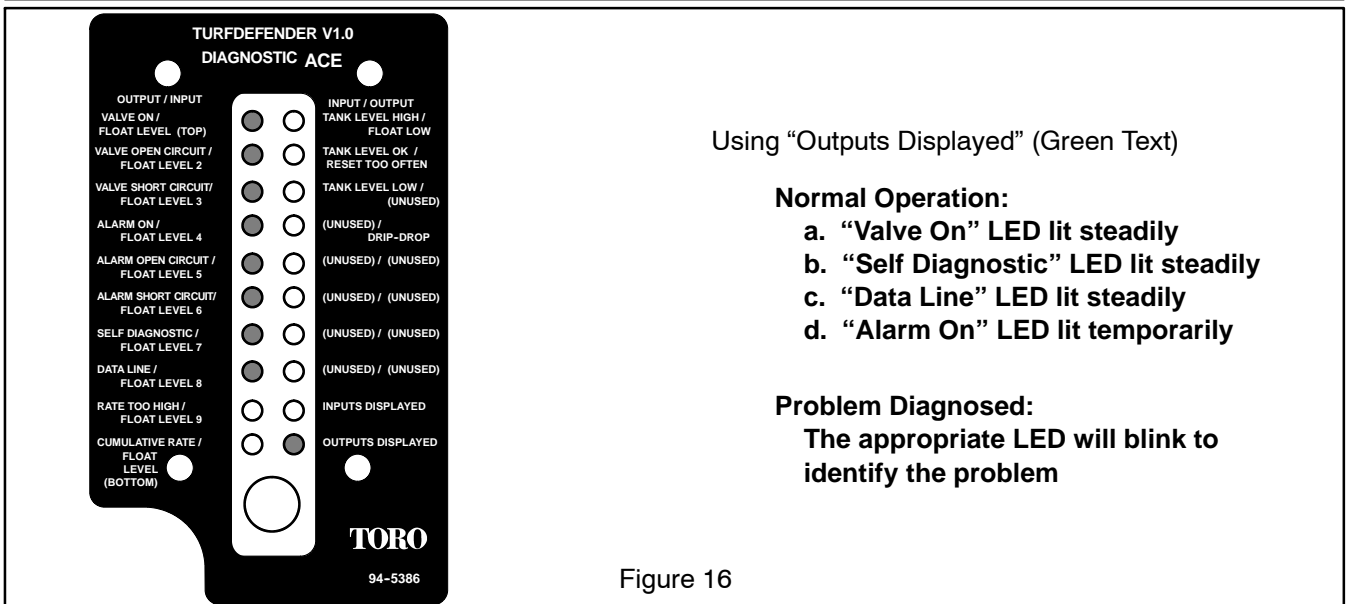

Figure 16
2. Press toggle button until green “Outputs Displayed” LED is lit (Fig. 16).
4. Toggle “Outputs Displayed” on the Diagnostic Display (Fig. 16). If “Alarm Open Circuit” or “Alarm Short Circuit” LED’s are blinking, check TurfDefender™ alarm or wires. Replace if necessary.
2. When toggling “outputs”, a LED should display any of the following problems diagnosed by the TurfDefender™ (Fig. 16):